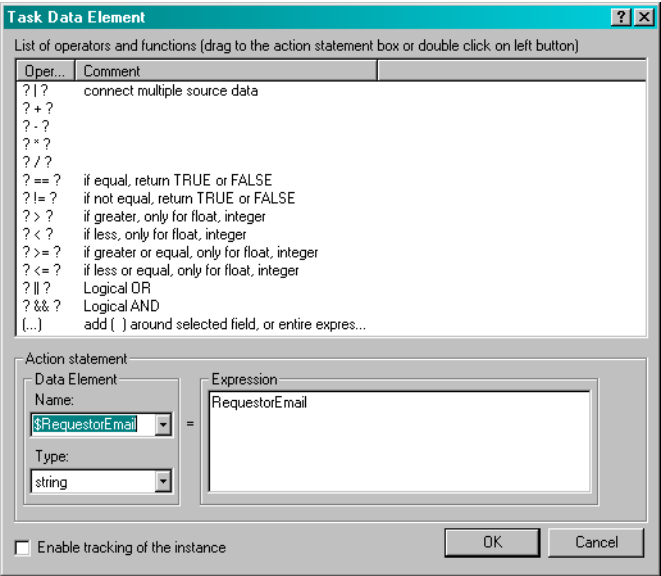

Figure 28-12. Task Data Element with \$RequestorEmail set to take the values from RequestorEmail in the ASP file.
- 6 Compare your work to the dialog shown in Figure 28-12 below. Click **OK**.